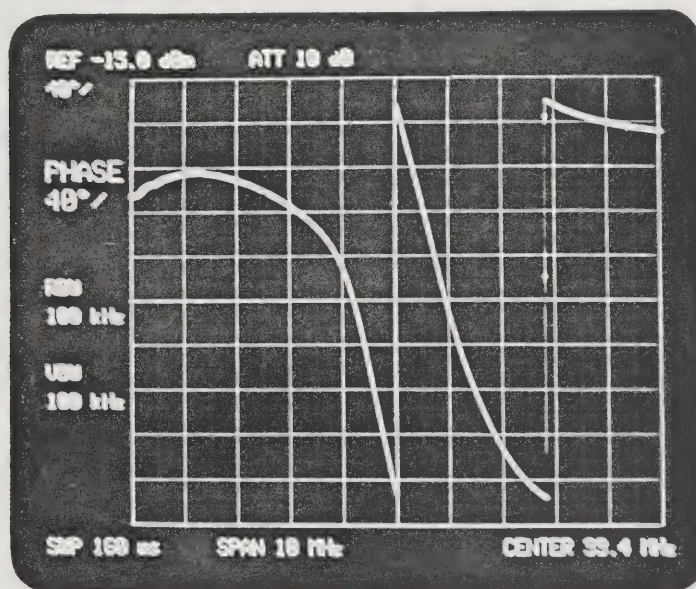

Fig. 7-6 Filter's phase response
- (8) Connect the device under test (filter) to the measuring setup to observe its phase response (Figure 7-6).